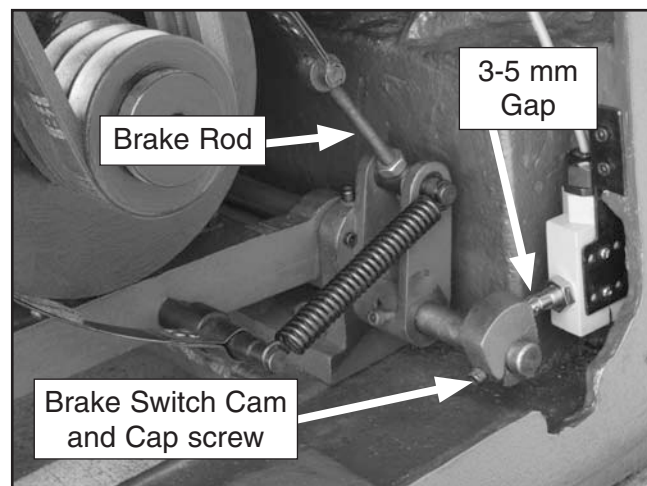

Figure 110. Brake band and switch.
3. Use a 16mm wrench and adjust the brake rod (**Figure 110**) so, when the foot pedal is pressed, the brake band firmly clamps the drum. When released the brake band should be loose on the drum.
4. Use a 5mm hex wrench and adjust the brake switch cam so when in the released position, there is 3 to 5mm gap between the cam and the brake switch pushrod (**Figure 110**).